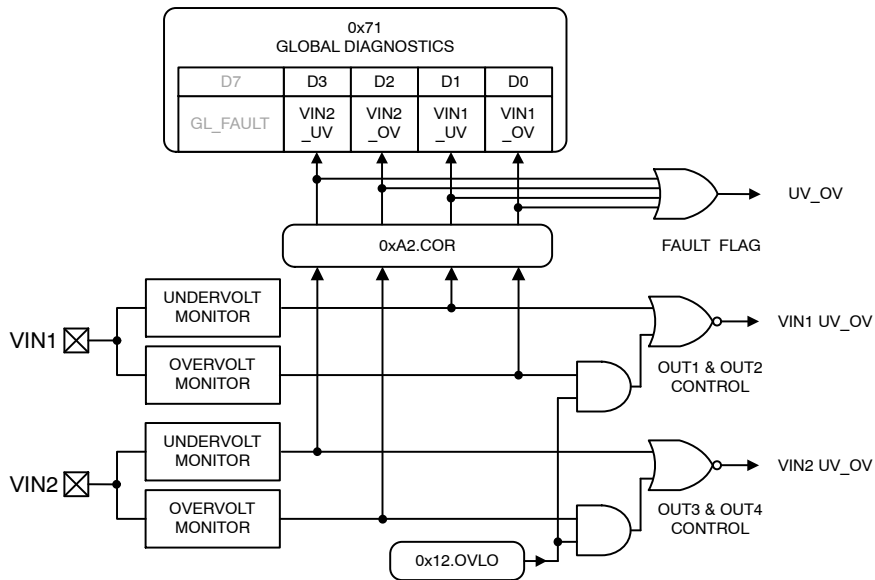

Figure 14. Global Diagnostics: Under/Over Voltage (UV/OV) Mapping and COR Configuration
Similarly and also in contrast to the GLOBAL DIAGNOSTICS register – which maps the individual global VINx undervoltage (UV) and VINx overvoltage (OV) fault types to the corresponding 0x71.VINx_UV and 0x71.VINx_OV bits (see Figure 14) – the fault pin mapping scheme combines any UV or OV fault type from either VINx, the result of which can be either blocked from or passed to the fault pin via the single ‘OV_UV’ fault type bit.